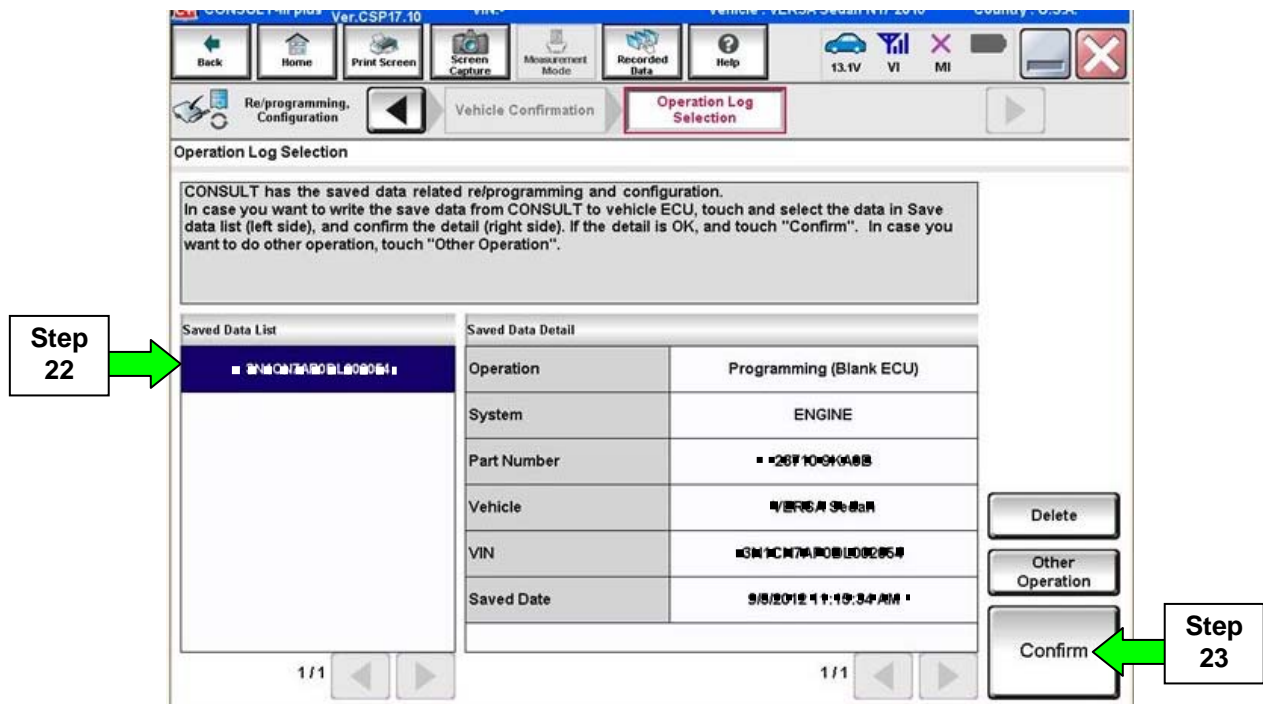

Figure 12
22. Make sure the VIN in the **Saved Data List** (Figure 12) matches the vehicle's VIN.